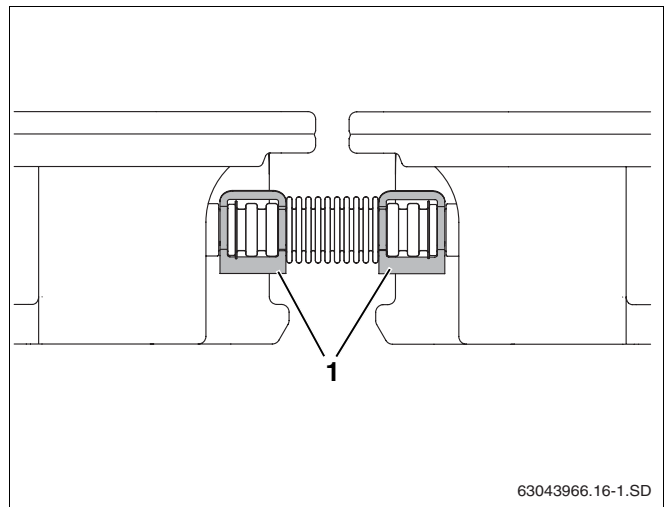

Fig. 47 Corrugated pipe connector secured with brackets
- ▶ Secure each end cap with one bracket and each corrugated pipe connector with two brackets (Fig. 47, **Item 1**).